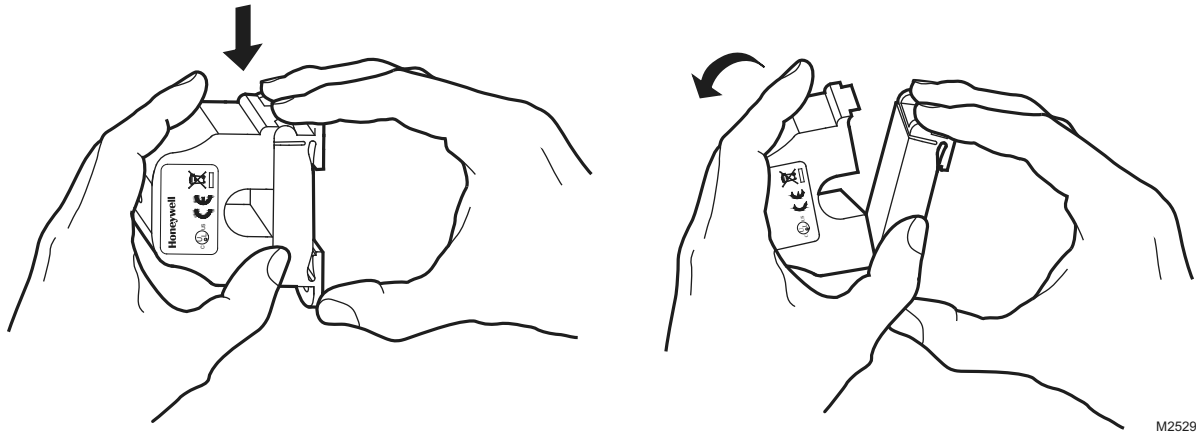
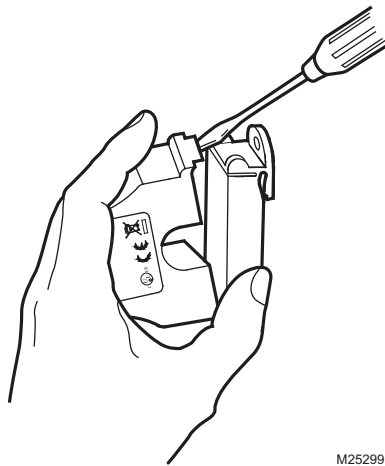

Fig. 5. Opening sensor by hand
Fig. 6. Opening with a screwdriver
Pressing down on the two (2) side tabs and swinging the cover open opens the split core current sensor as shown in Fig. 5. Lifting up on the latch with a flat-tip screwdriver as shown in Fig. 6 can also open the unit. Press down firmly on the cover to close the current sensor. An audible “click” will be heard as the tab slides over the tongue on the base.